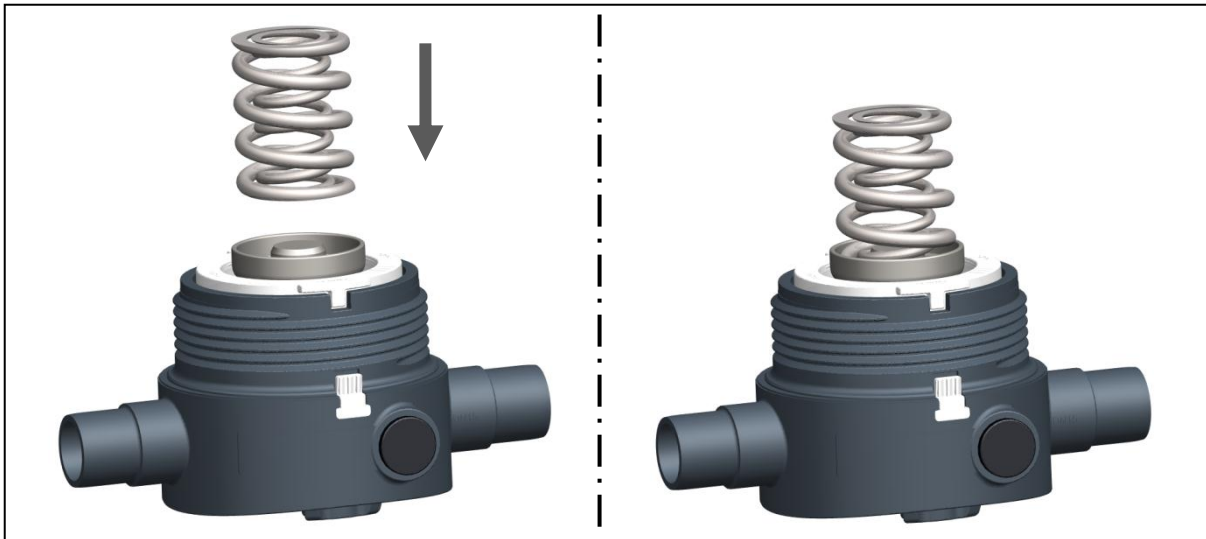

Fig. 15
- Put the springs on the Pressure piece, see Fig 15